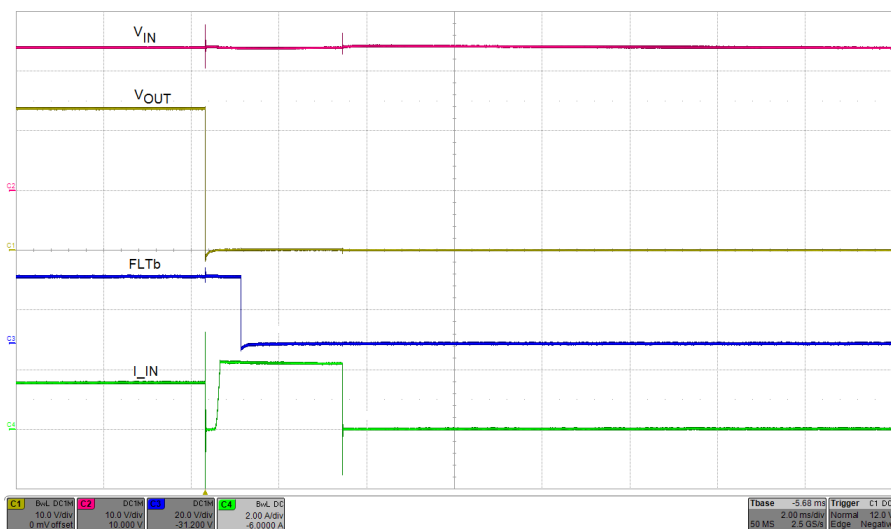

Figure 4-7. Output Short-Circuit Protection
4. Use either wire or FET to short the output to ground and verify the output short-circuit response waveform as shown in Figure 4-7.